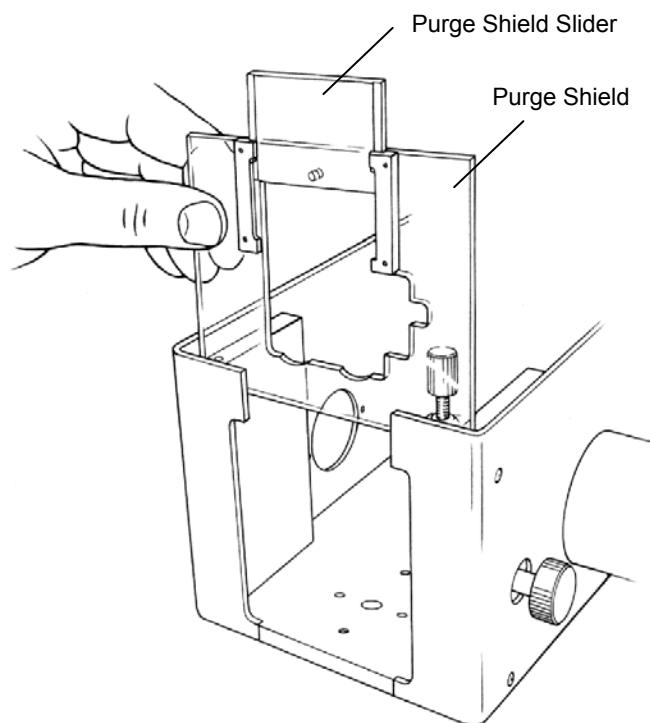

Figure 10 • Removing the Heating Cartridge
- Slide the purge shield into the Praying Mantis, directly behind the front of the accessory, as shown in Figure 10.